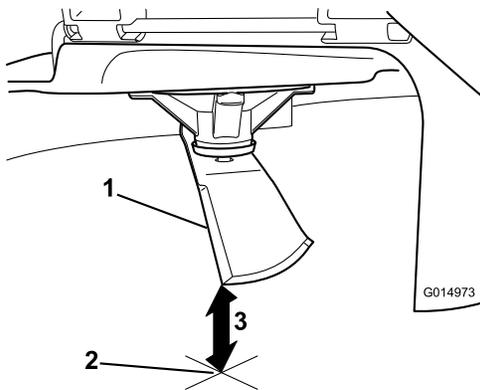

Figure 100
3. Measure from the tip of the blade to the flat surface (Figure 100).